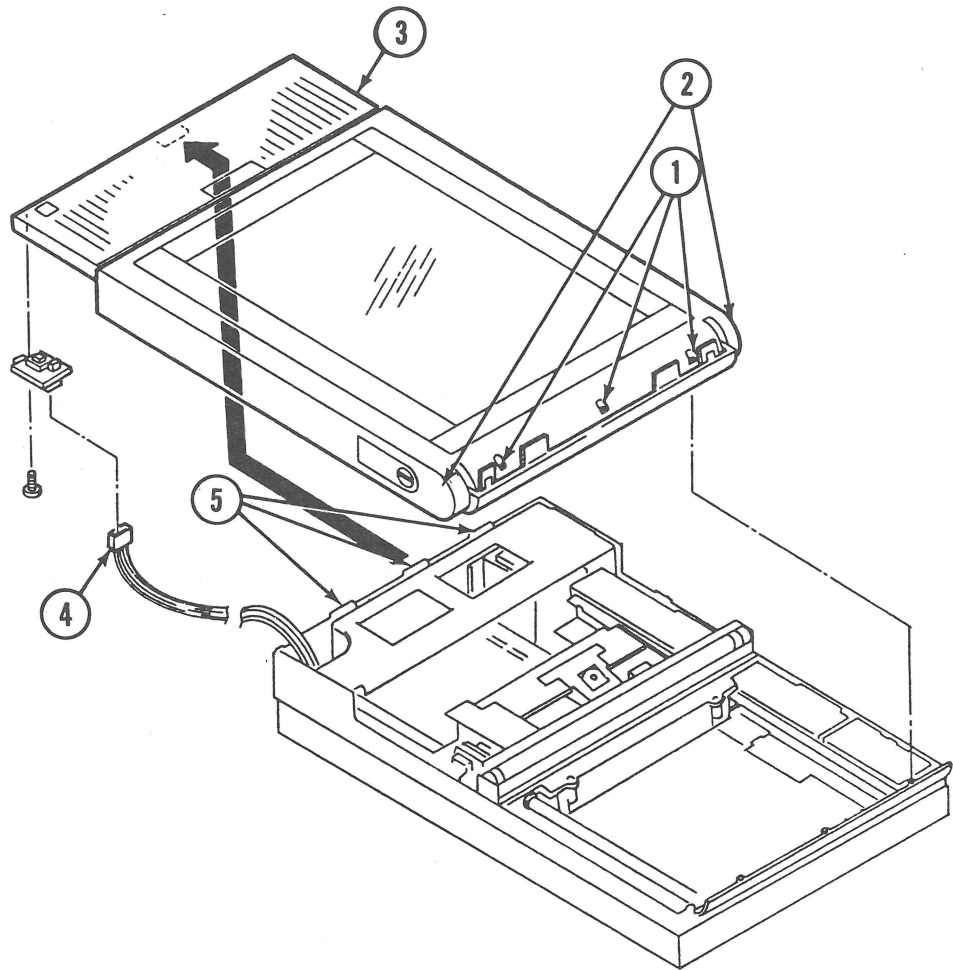

FIGURE 2
2. Locate the three screws (Figure 2, #1) that are along the top back of the scanner, and unscrew them half way.
3. Using both hands, grasp the top case from the back (where the screws were removed, Figure 2, #2) and carefully pry the top case loose.
4. Swing the case up and forward toward the front of the scanner (Figure 2, #3).
5. When the case gets to the top of the swing (90°), remove the scan switch cable from the LED circuit board (Figure 2, #4) located at the right-front side of the case.
1. Stand the top case 90° to the front of the bottom case. Align the front of the top cover with the front of the bottom cover, making sure that the three tabs (Figure 2, #5) align with the three slots in the bottom case. Also, make sure the LED is aligned with the cutout on the bottom case. Hold the case in this position until the next step is performed.
2. Attach the scan switch cable to the PCB on the right front side of the case (Figure 2, #4).
4. Secure the top cover with the three screws (Figure 2, #1).